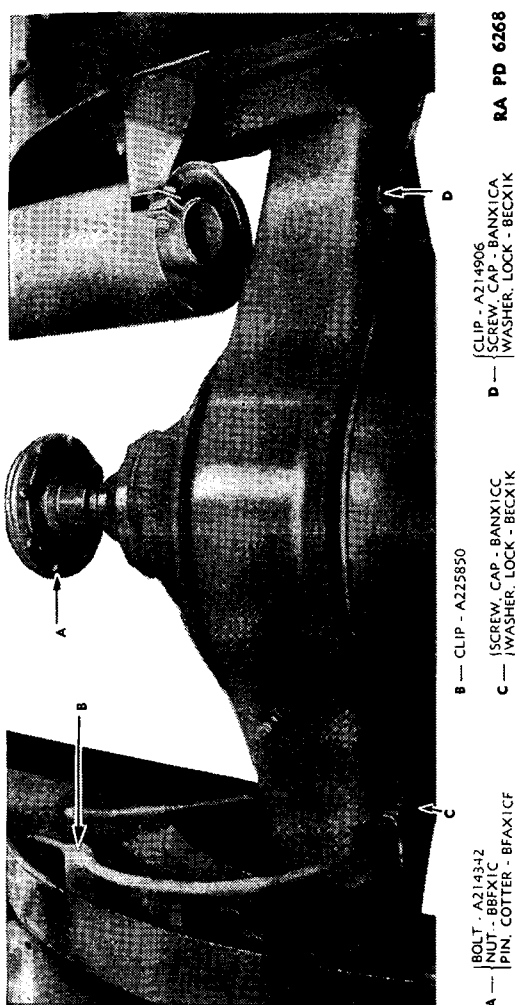

FIGURE 46.—Rear wheel brake lines, installed.
*d.* Disconnect brake lines— $\frac{9}{16}$ -inch, open end wrench. Break hydraulic hoses at wheel cylinders and remove cap screw (BCAX1CC) and lock washer (BECX1K) holding brake line tee (A167679) to differential housing, and cap screw (BCAX1CA) and lock washer (BECX1K) holding brake line clip (A214906) to axle housing (fig. 46).
(1) Disconnect rear propeller shaft— $\frac{9}{16}$ -inch open end wrench,  $\frac{9}{16}$ -inch socket wrench. Remove eight  $\frac{3}{8}$ -inch bolts, nuts, and cotter pins holding universal joint flange to jackshaft companion flange (fig. 46).
(2) Drain lubricant— $\frac{9}{16}$ -inch open end wrench. Remove magnetic drain pipe plug (A214913) from housing and drain lubricant.
(3) Remove floor plate— $\frac{7}{16}$ -inch socket wrench. Take out screw (BCNX2CF) and nut (BBAX1A) securing floor plates (B185254) over differential housing and remove plates.